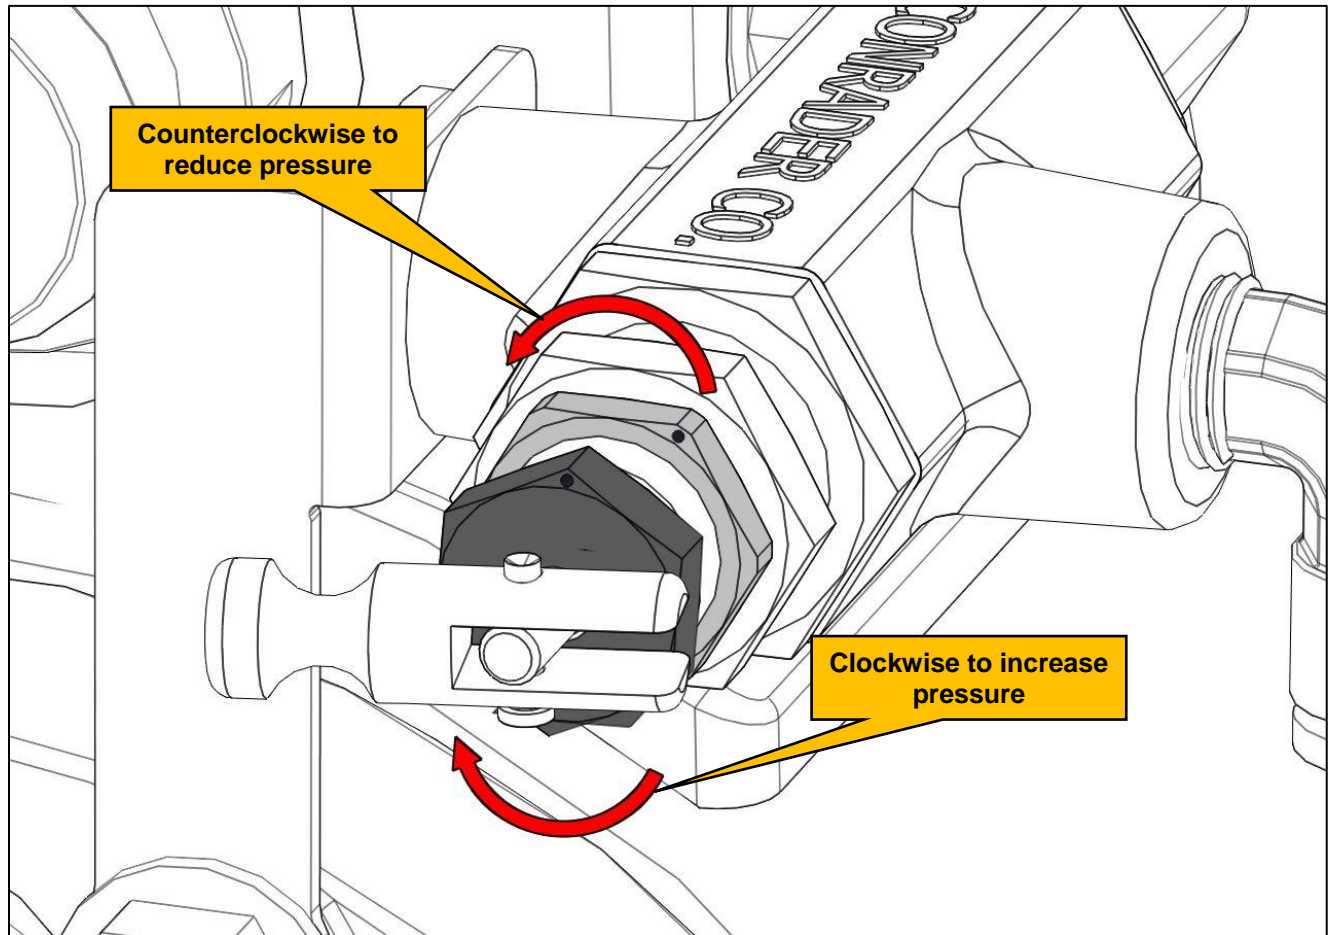

Figure 2 – Adjusting the Unloader Valve
- ☐ Make a locating mark on both the “Pressure Adjustment Locknut” and the “Pressure Adjustment Screw” (Figure 2).